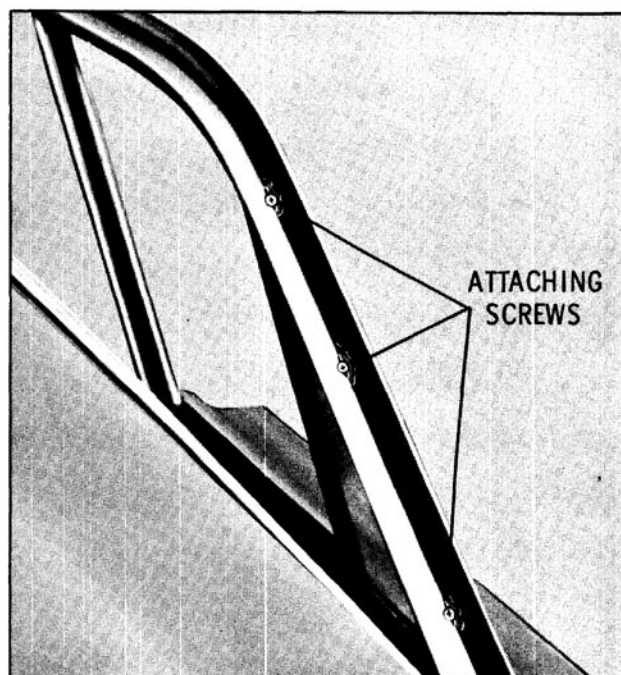

Fig. 16-42 Ventilator Attachment
- Remove ventilator upper attaching screws along window frame. (Fig. 16-42)